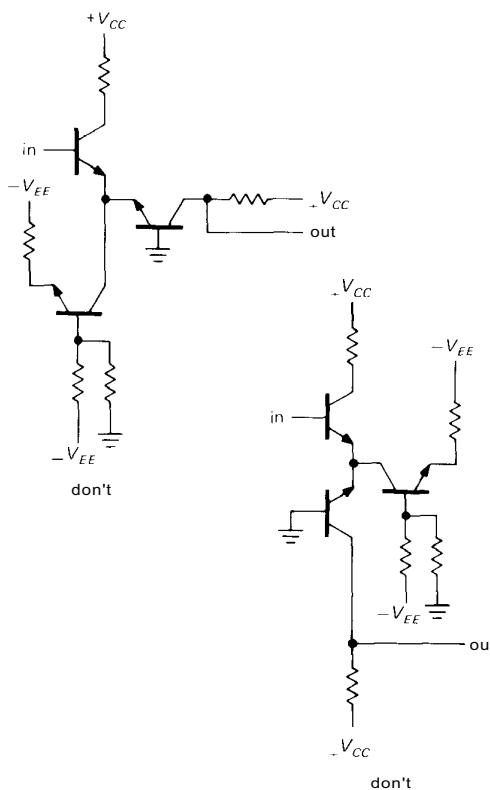

Figure E1
2. A good schematic makes circuit functions clear. Therefore, keep functional areas distinct; don't be afraid to leave blank areas on the page, and don't try to fill the page. There are conventional ways to draw functional subunits; for instance, don't draw a differential amplifier as in Figure E1, because the function won't be easily recognized. Likewise, flip-flops are usually drawn with clock and inputs on the left, set and clear on top and bottom, and outputs on the right.